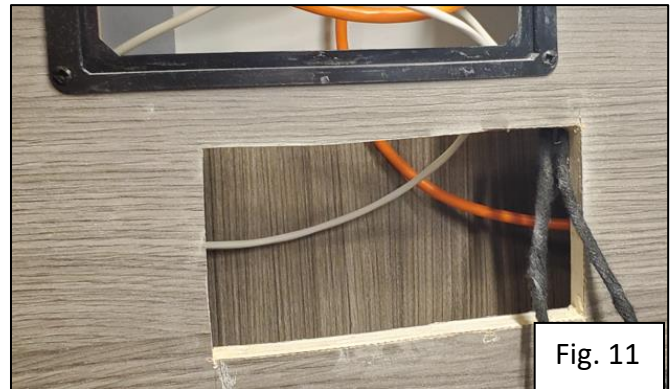

Fig. 11
- C. Using an Oscillating Tool, cut the opening as marked. (Figure 11)